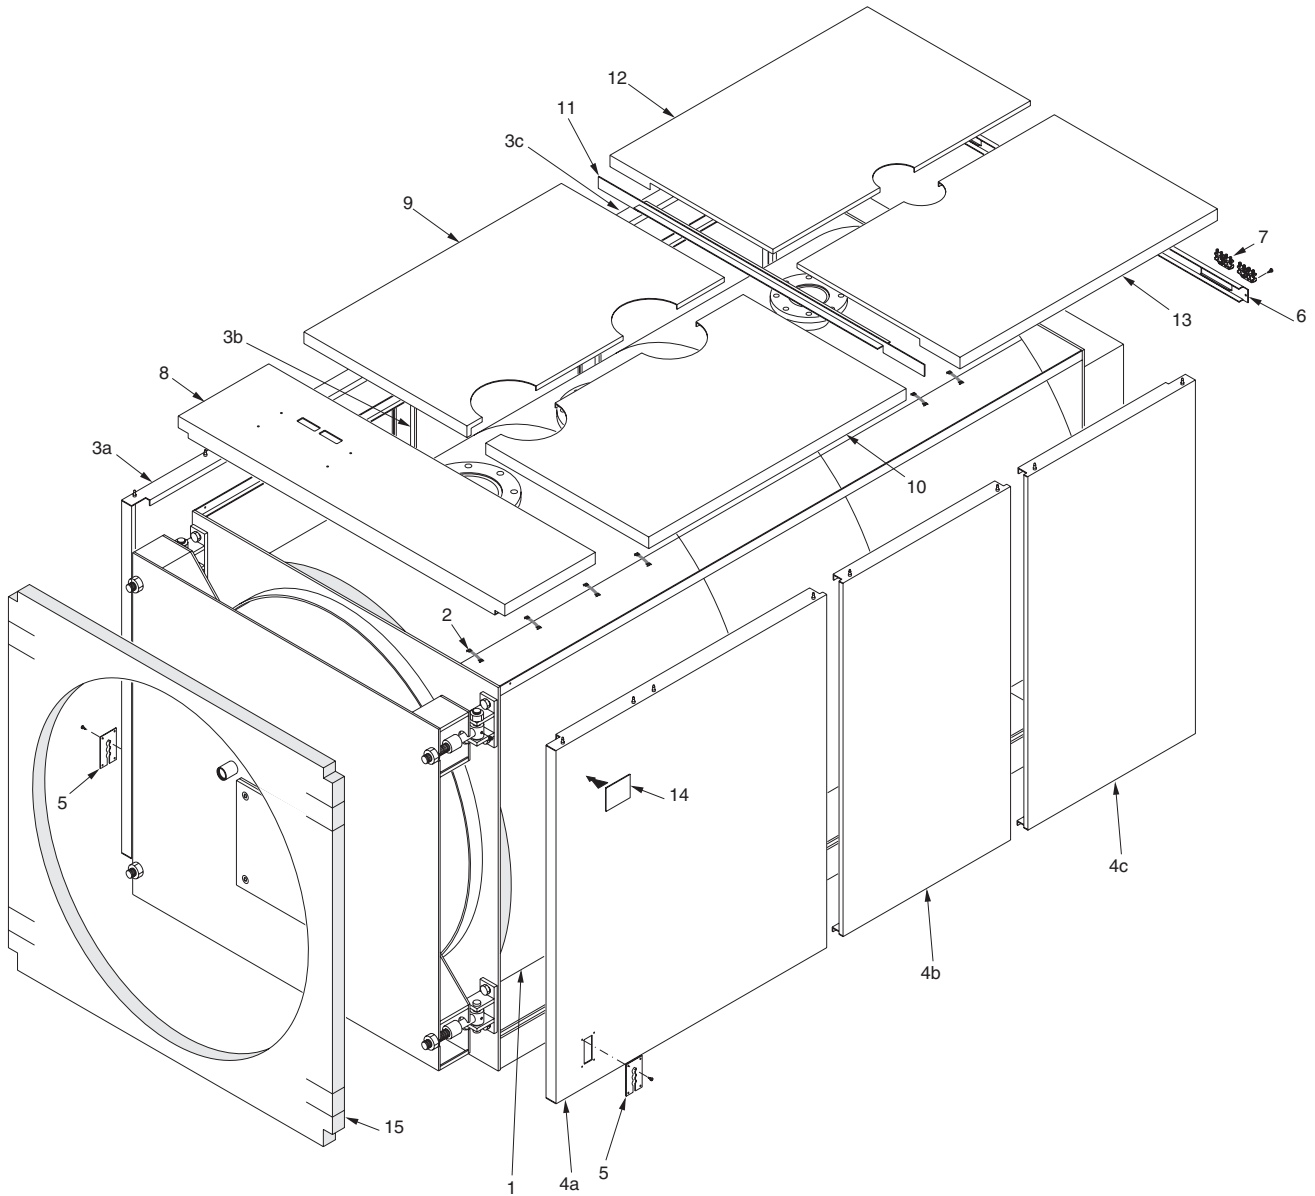

fig. 23
N.B. For the model **ELL 2650** (ref. fig. 23) the casing and the insulation are contained in 4 cartons.
Mounting sequence (Ref. fig. 23)